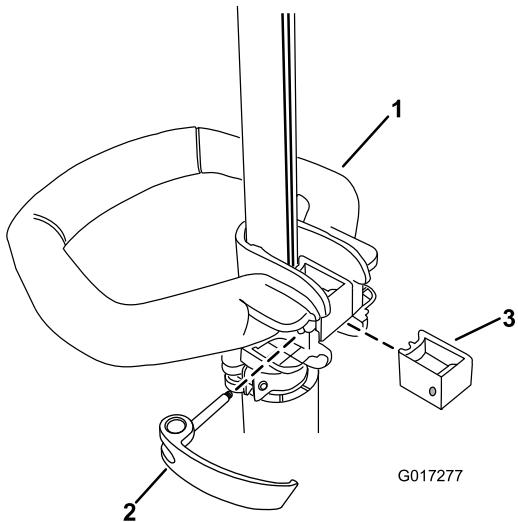

Figure 2
1. Position the auxiliary handle on the shaft of the trimmer with the smooth surface facing the operator (Figure 2).
2. Slide the brace into the auxiliary handle so that the brace rests in the groove along the shaft (Figure 2).
3. Slide the latch from the left through the handle and brace as shown and tighten the latch screw with a Phillips head screwdriver (Figure 2).